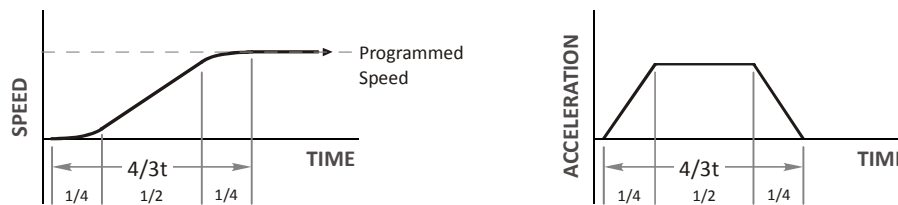

Figure R2.3 Trapezoidal S-Curve Acceleration
When the Acceleration Jerk parameter is set high, Trapezoidal S-Curve acceleration usually results. The acceleration value quickly increases (accelerates) until it reaches the value of the Acceleration Parameter. At this point, the acceleration remains constant until the IANG1(E) begins to apply the jerk property value to decrease the acceleration value until it equals zero when the programmed maximum speed is reached. Figure R2.3 shows a trapezoidal curve when the Acceleration Jerk setting results in the acceleration being constant for half of the acceleration time. With this setting, the Trapezoidal S-Curve acceleration only requires 33% more time to achieve the same velocity as a Constant Acceleration move.